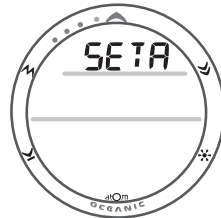

Fig. 47 - SET A
- > Depressing the A and S buttons simultaneously for 4 seconds while NORM or GAUG SURF MAIN is displayed will access SET A identified by the graphic SETA (Fig. 47).